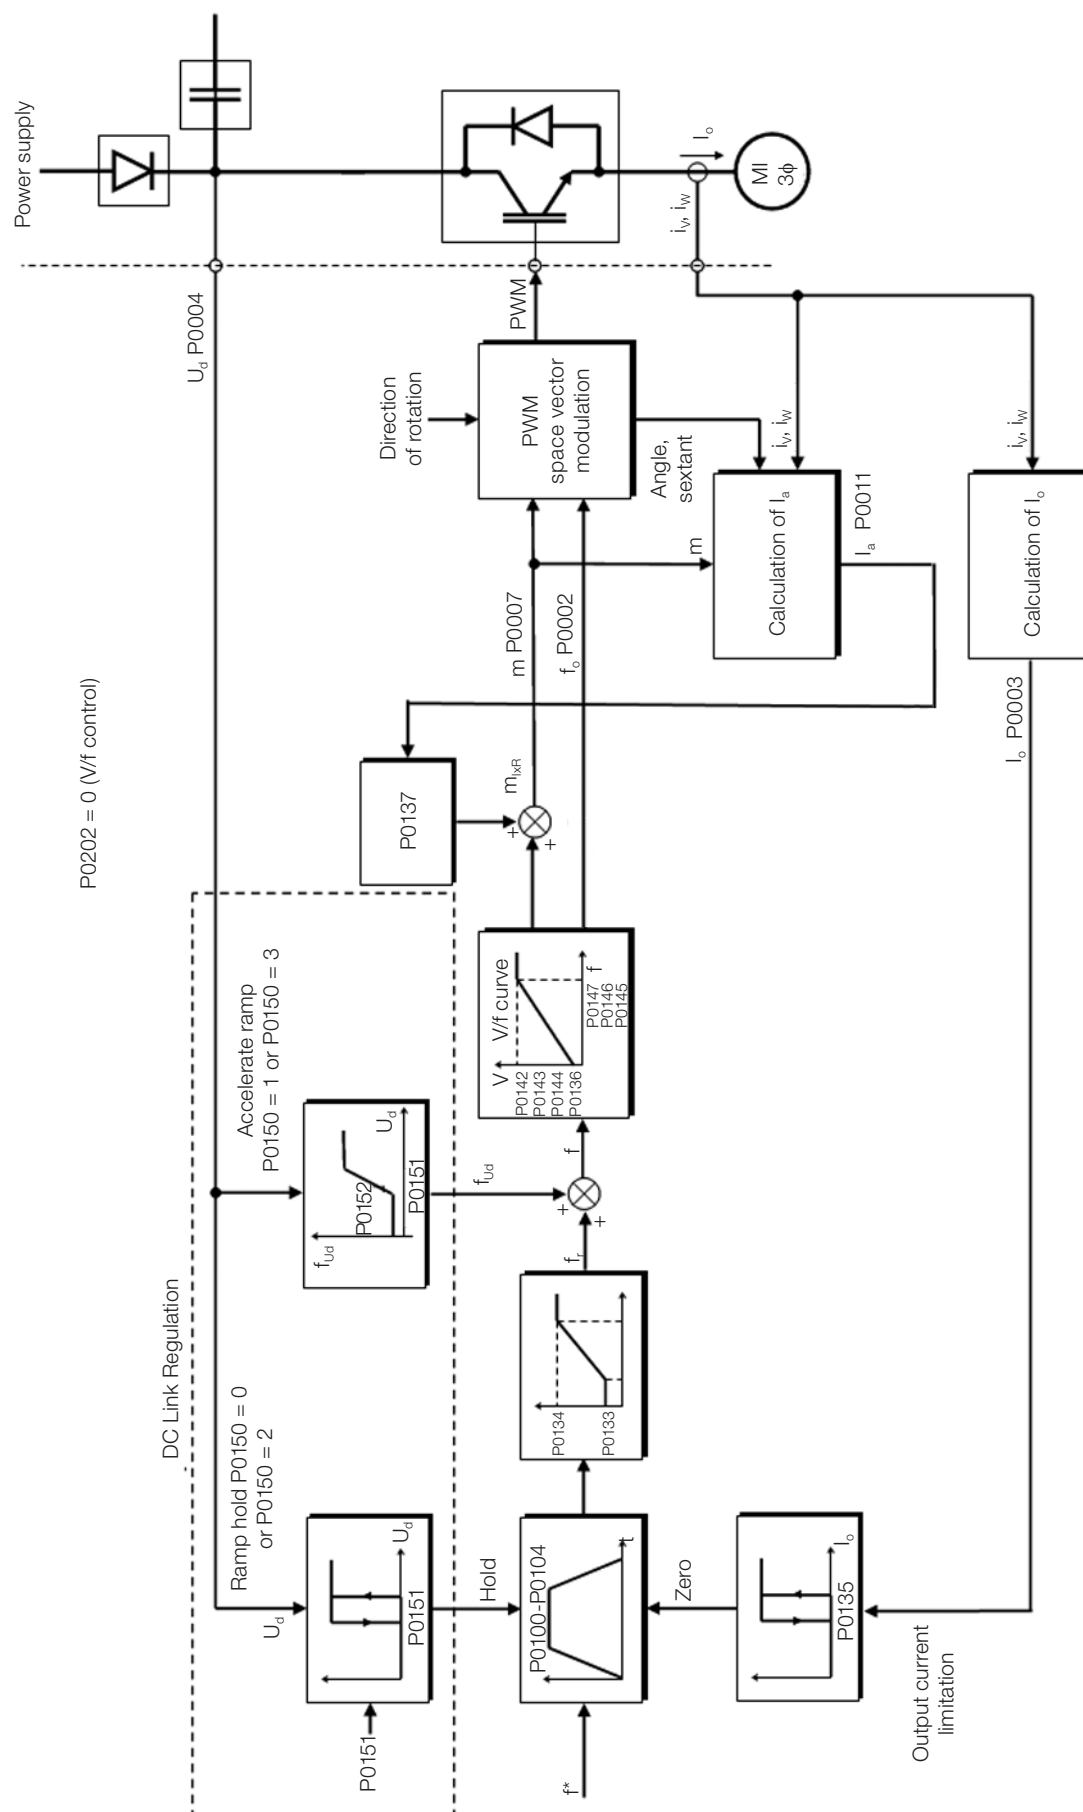

Figure 9.1: Block diagram of V/f scale control
According to the block diagram of Figure 9.1 on page 9-2, the speed reference f^* is limited by P0133 and P0134 and applied to the input of "V/f curve" block, where the output voltage amplitude and frequency imposed to the motor are obtained. For further details on the speed reference, refer to Chapter 7 LOGICAL COMMAND AND SPEED REFERENCE on page 7-1.
The automatic torque boost compensates the voltage drop in the stator resistance because of active current. Look at Figure 9.1 on page 9-2, where variable **mlxR** corresponds to the automatic torque boost action on the modulation index defined by V/f curve.
- Actuation: when the DC Link voltage reaches the level set in P0151, a command is set to the "ramp" block, which inhibits the motor speed variation according to Figure 9.1 on page 9-2 and Figure 10.1 on page 10-2.